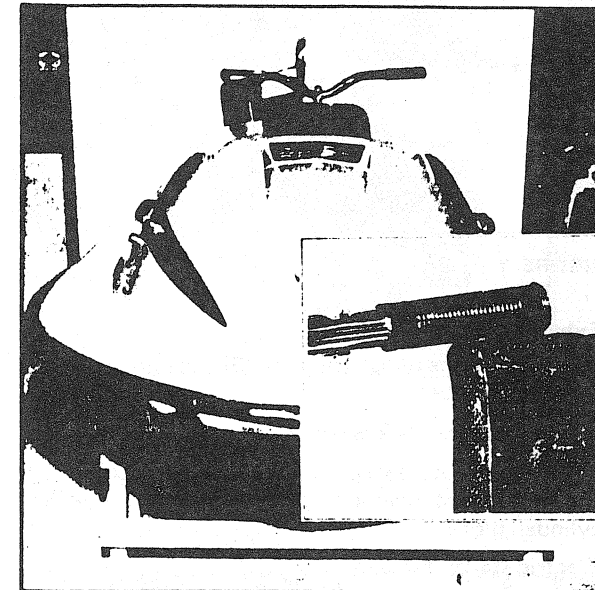

FIGURE 1
- Open the seat access cover and support it with the handle bar (fig. 1).